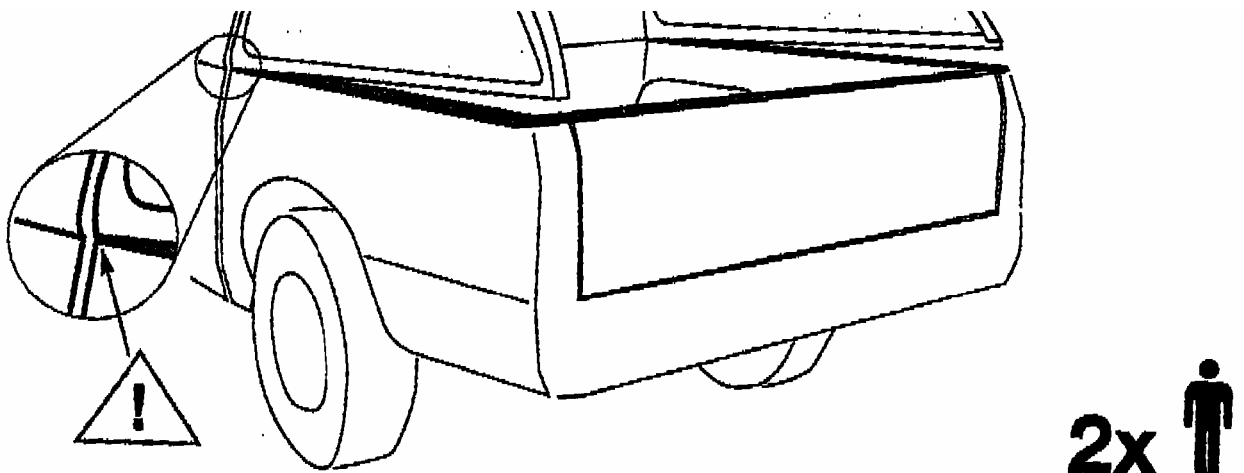

Fig. 3
c) Lift the Truckman top onto the top of the loadbed using at least 2 people. Take care to line the Top up ensuring that the front of the hardtop is in line with the front of the loadbed as shown in Figs 3 & 4. Also make sure that the Top is positioned centrally on the vehicle.